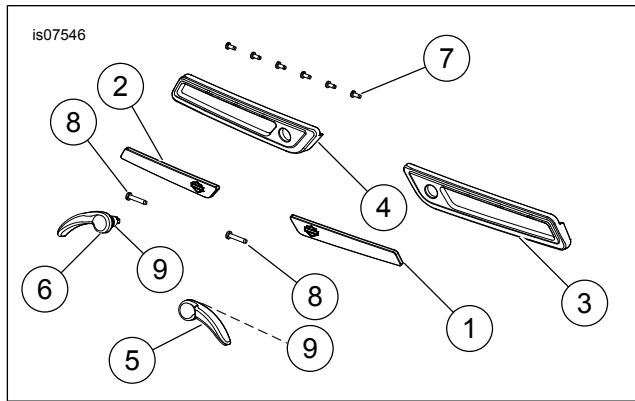

Figure 2. Service Parts: Hinge Cover and Lever Kit
See Figure 2 and Table 1.
1. See Figure 2. Clean reflector mounting surface in faceplate (4) with an equal mixture of water and isopropyl alcohol. Allow to dry thoroughly.